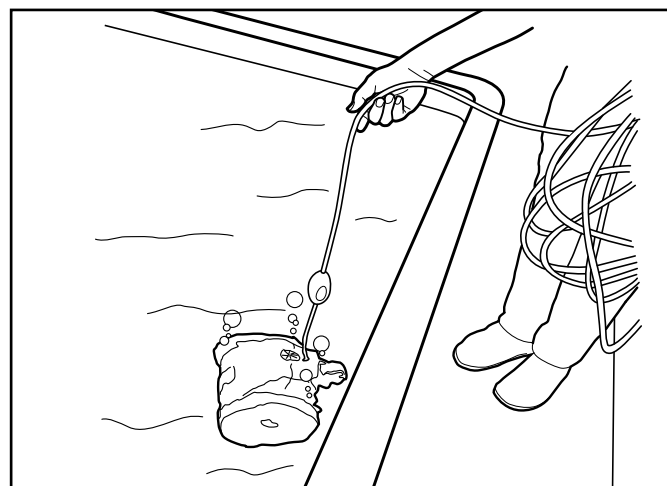

Figure 7. Remove Cleaner From Pool
- Never lift the Zodiac V1 out of the pool by the floating cable. Always use the handle to remove it from the pool. Drain the remaining water from the cleaner by keeping the cleaner in a vertical position. Refer to Figures 7 and 8.